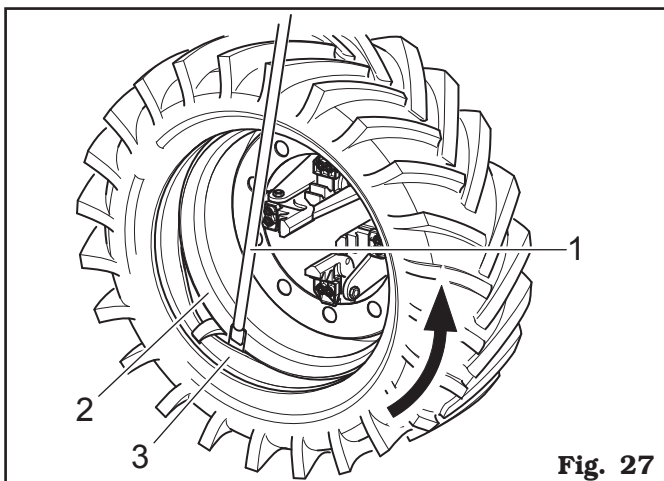

Fig. 27
- Insert the lever (**Fig. 27 ref. 1**) between rim (**Fig. 27 ref. 2**) and bead (**Fig. 27 ref. 3**) on the hook tool right.
- Keeping the lever pressed, lower the wheel until the edge of the rim is approximately 5 mm (0.2") distant from the hook tool then turn the chuck counterclockwise keeping the lever (**Fig. 27 ref. 1**) pressed until the tyre has been completely dislodged from the rim.